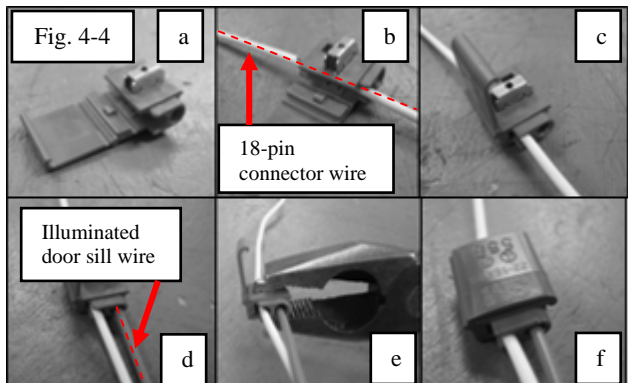

Fig. 4-4
- (3) Position the open side of the Scotchlok on to the **GREY** wire, approximately 1 inch from the connector end. Close the side to keep the wire in place. (Fig. 4-4 steps a-c)
- (5) Use pliers to push down the metal tab to splice the wires. Make sure both wires are spliced correctly (Fig 4-4 steps d-e).
- (6) Snap the plastic cover in place by hand (Fig. 4-4 step f).
(3) Position the open side of the Scotchlok on to the **GREEN** wire, approximately 1 inch from the connector end. Close the side to keep the wire in place. (Fig. 4-4 steps a-c)
(5) Use pliers to push down the metal tab to splice the wires. Make sure both wires are spliced correctly (Fig 4-4 steps d-e).
(6) Snap the plastic cover in place by hand (Fig. 4-4 step f).